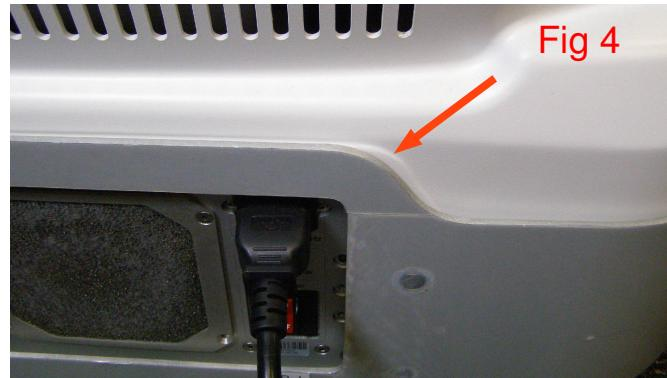

Fig 4
2. Insert the Panel into the base making sure it is all the way down. (Fig 4)